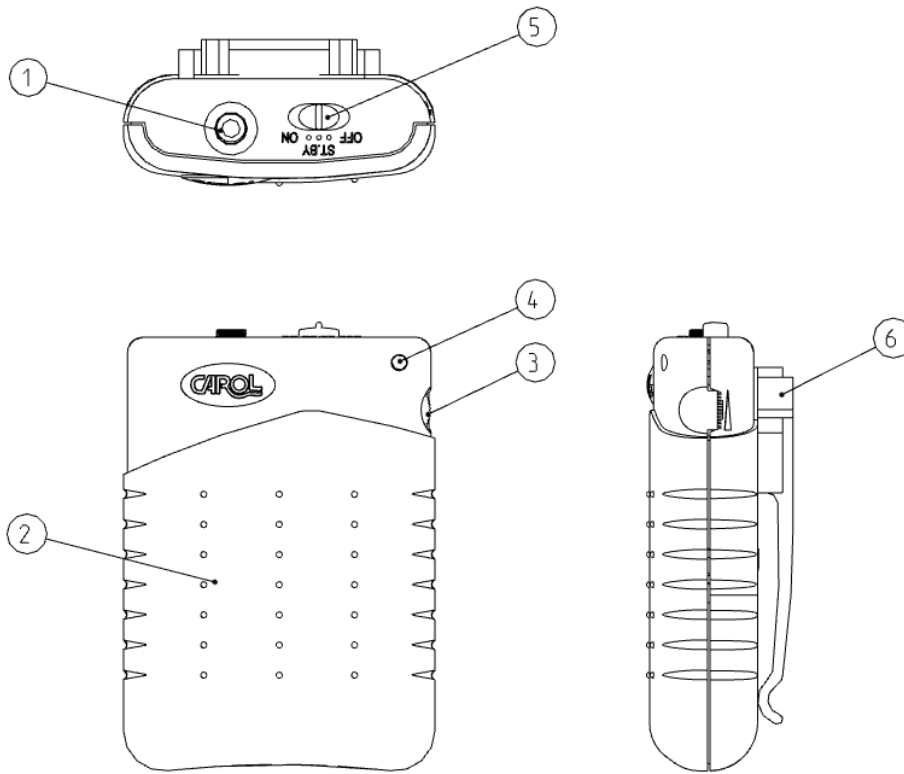

Figure 2.3
2.3 DWM-881 Bodypack Digital Wireless Transmitter (as shown in figure 2.3 and 2.4)